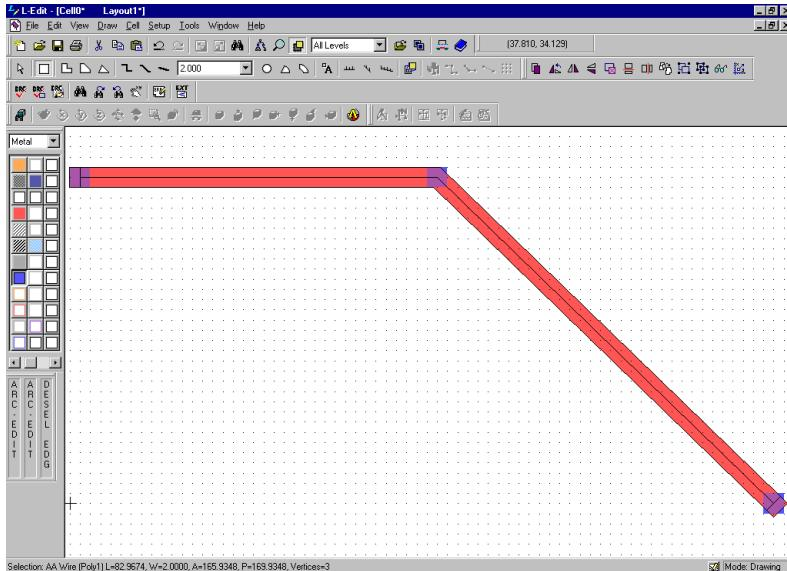

Figure 53: Selecting the reference wire
- Select the angled wire (often referred to as the "reference wire") (Figure 53) by clicking on it.
A shape factor between [-1, 0] applied to the second vertex of the selected reference wire (Figure 53) will cause the shape to behave like an interpolation spline.